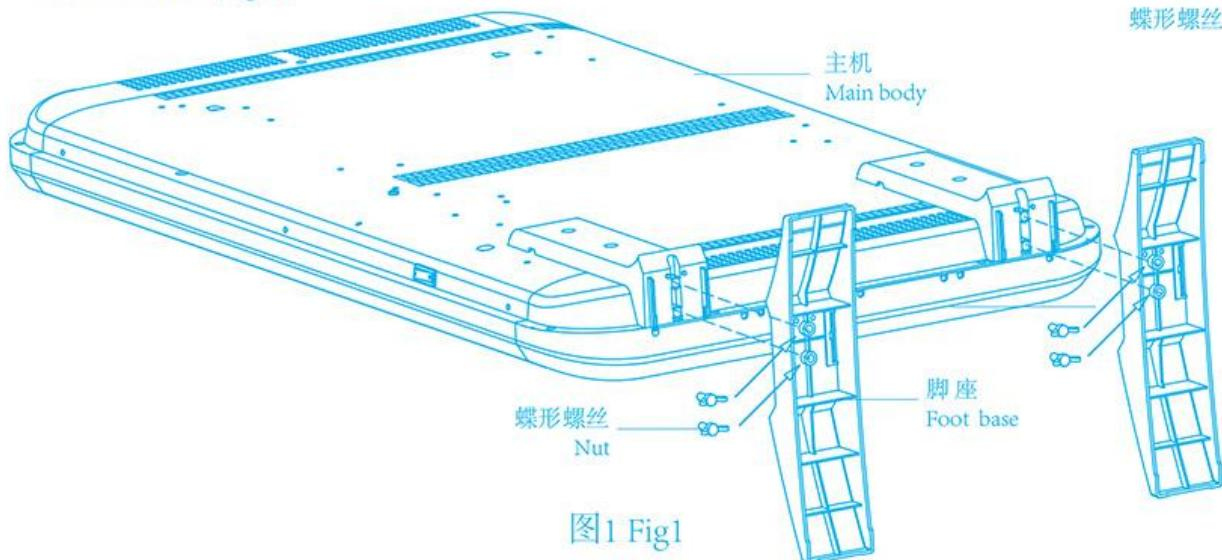

图1 Fig1
- 2、从包装泡沫中取出脚座（2个）和蝶形螺丝（4颗），沿图中所给出的中心线将脚座卡入固定在背板的塑料件中，并用蝶形螺丝拧紧(图1)；
2、 Remove the foot base and nut,tighten the foot base as centre line to main body make it is fixed, and then tighten the nut in accessory to inside screw,thus to fix the foot base(Fig1);